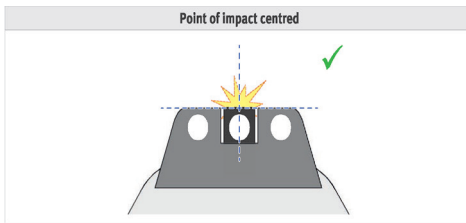
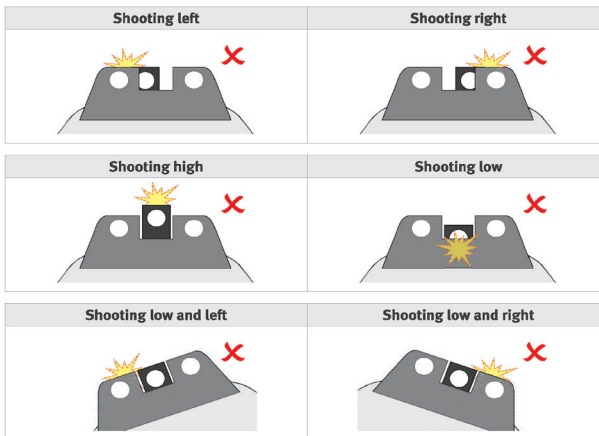

Figure 14 — Correct sight alignment
Figure 15 – Common sight alignment errors
The P30 is equipped with a three-dot sighting system, like those first introduced by HK on the P7 series pistol in the 1970s. The sights are adjustable for windage by drifting. Sights are installed and aligned by HK technicians at the factory. Figure 14 shows correct sight alignment, generally for the P30 series it is a "US Center" hold. Figure 15 shows common sight errors.
1. Acquire the proper sight alignment and sight picture (see Figure 14).